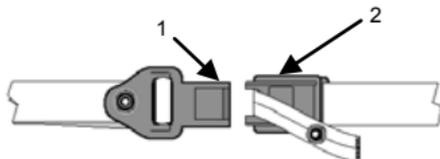

Figure 9. Quick-Release Buckle on Adjuster Strap.
4. Secure quick-release male buckle (Figure 9, Item 1) of 28-inch adjuster strap to female (Figure 9, Item 2) portion quick-release buckle on shoulder strap.